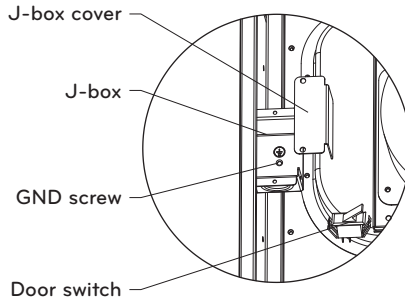

Fig.9-1 J-box
- Remove and save two screws holding J-Box. (See Fig.9-1)
- Remove and save two screws holding J-Box. (See Fig.9-1.)